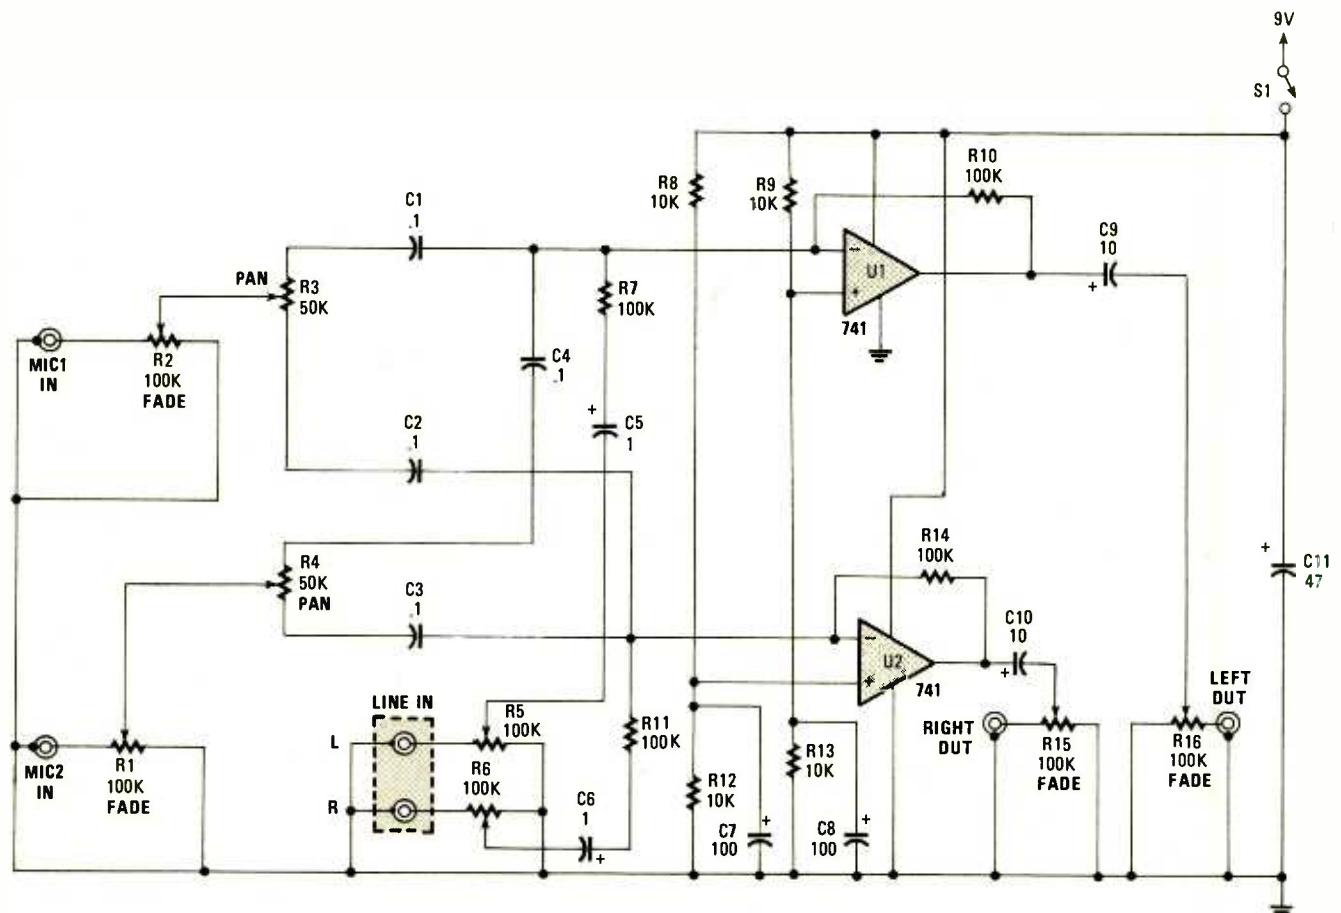

Fig. 1. This Stereo Mixer is actually comprised of two monophonic (mono) mixer circuits with a modification to the microphone inputs.
**Stereo Mixer.** Hi, Byron! I'm a 14-year-old that's trying to get a band started, with not much luck so far. That's what led me to the enclosed circuit (see Fig. 1). I'm certain that you've come across assorted simple mixers, but this one is—what I consider—a great improvement.